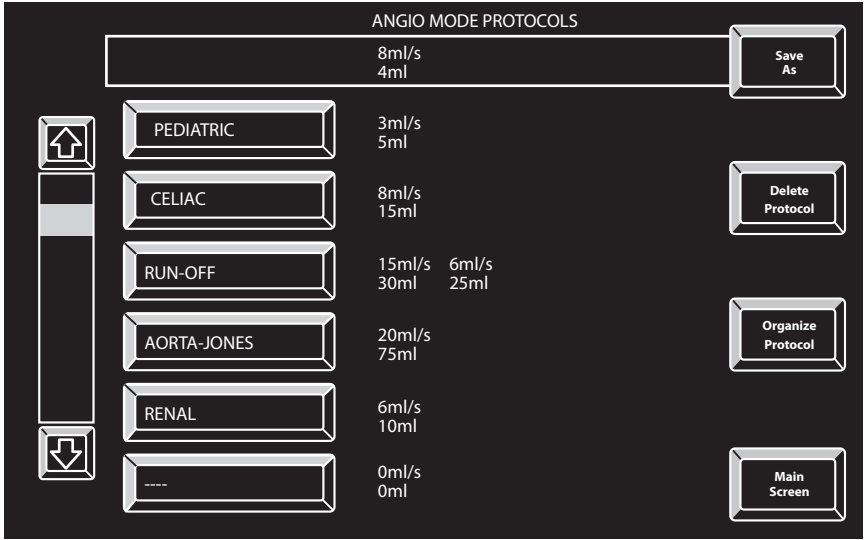

Figure 2-10-7 Protocol Screen
2. To access the Protocol screen, press the PROTOCOL MANAGER key located in the lower right corner of the Main screen. The screen in Figure 2-10-7 will appear with the programmed values in the top window of the screen with the SAVE AS key adjacent to the right side.